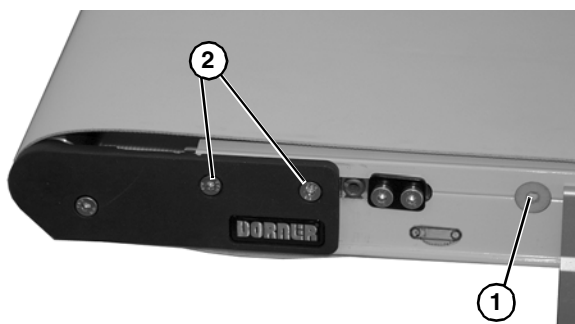

Figure 8
- With a 5 mm hex-key wrench, rotate pinion gear (**Figure 8, item 1**) to tension the conveyor belt. Tighten fastening screws (**Figure 8, item 2**) on both sides of conveyor to 60 in-lb (7 Nm). For proper tensioning, refer to “Conveyor Tension End Adjustment” on page 18.